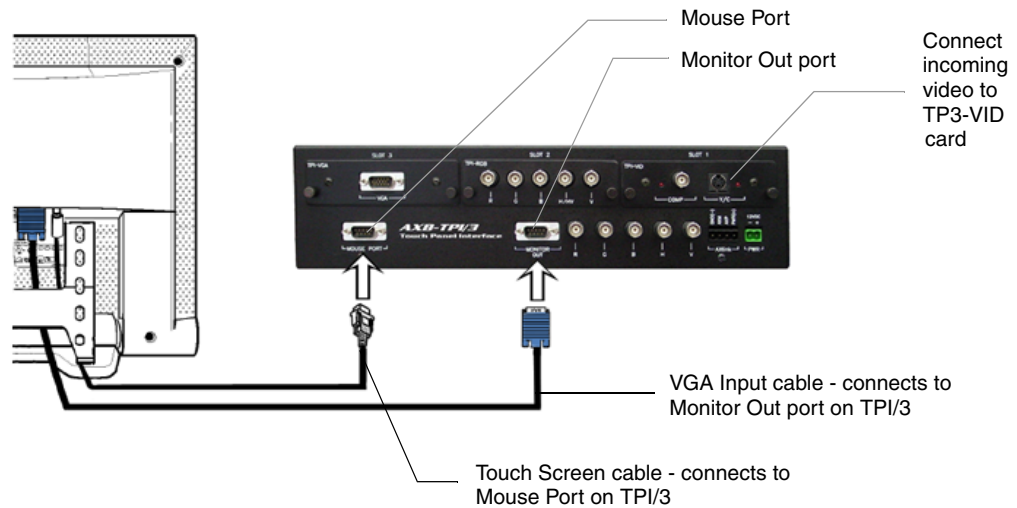

FIG. 19 Attaching the cables from the panel to the rear of the AXB-TPI/3
1. Connect the VGA signal cable from the rear of the VTM-D15/A panel to the Monitor Out port on the back of the TPI/3 (FIG. 19).